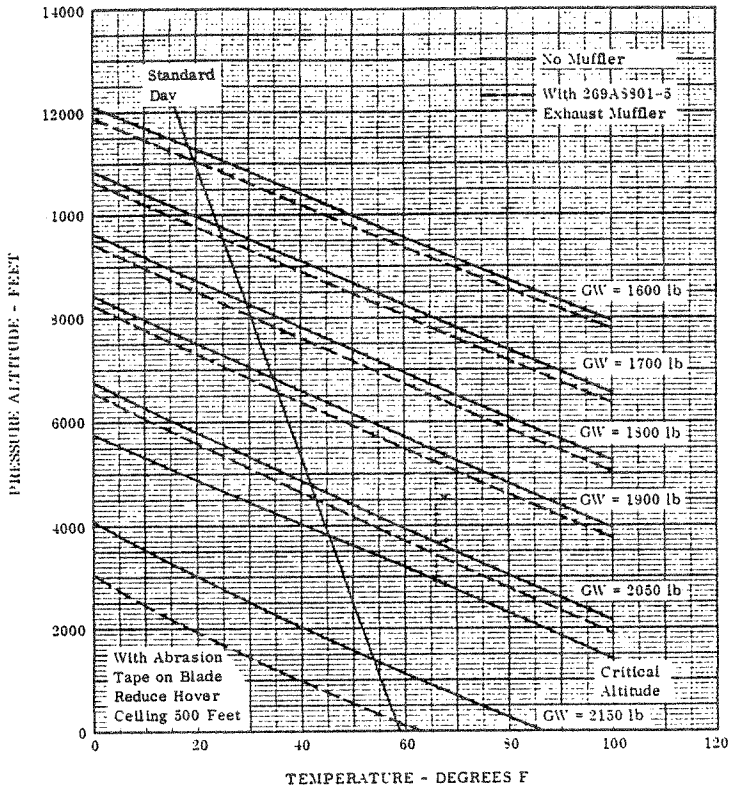

Figure 3-1. In Ground Effect Hover Ceiling Versus Temperature
- 3-1. Figure 3-1 provides hover ceiling data at 6-foot skid height to assist in planning operations with the cargo hook.